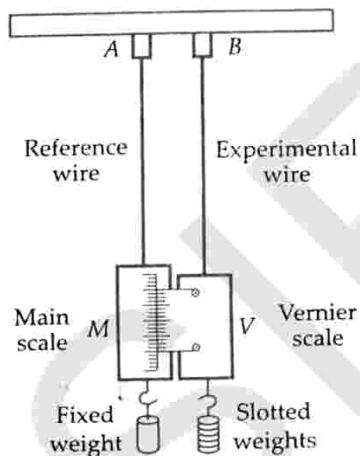

Fig. 9.7 Experimental arrangement for the determination of Young's modulus.
**Experiment to determine the Young's modulus of the material of a wire.** A simple experimental arrangement used for the determination of Young's modulus of the material of a wire is shown in Fig. 9.7. It consists of two long straight wires of same length and equal radius suspended side by side from a fixed rigid support. The wire *A*, called the *reference wire*, carries a main milliammeter scale *M* and below it a heavy fixed load. This load keeps the wire taught and free from kinks. The wire *B*, called the *experimental wire*, carries a